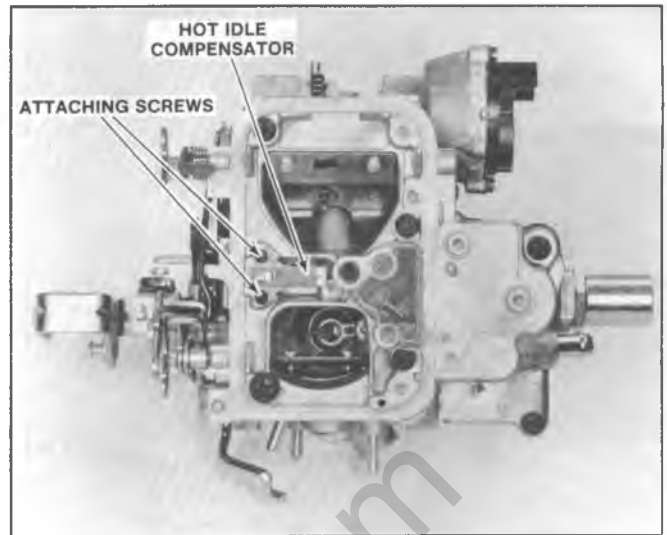

Fig. 6C2-22--Hot Idle Compensator
9. Remove the (7) air horn to bowl attaching screws and lockwashers (Fig. 6C2-23). Remove vent and screen assembly.